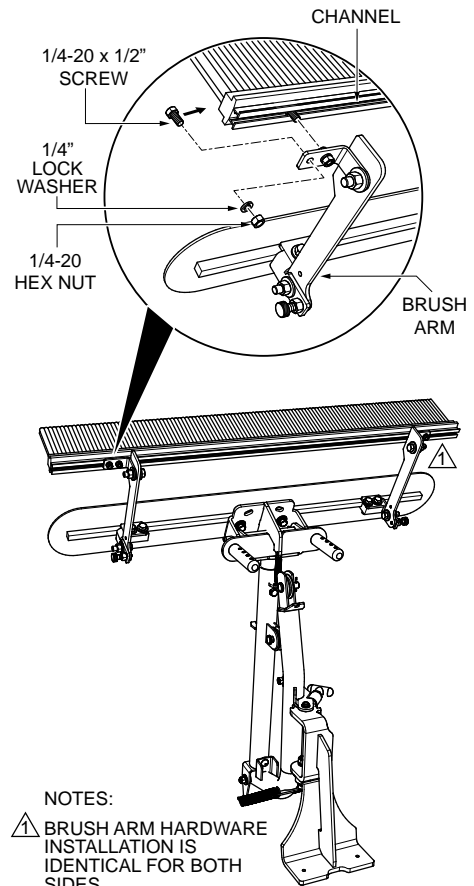

Figure 25. Attaching the Fresno Brush
2. Slide the 1/4-20 x 1/2" screws (4) that were removed in step 1 into the brush channel as shown in Figure 25.
3. Align brush mounting hardware with brush arm. Once correctly positioned, secure the brush arm (Figure 25) to the brush channel by tightening the 1/4"-20 hex nut. Repeat for opposite side.